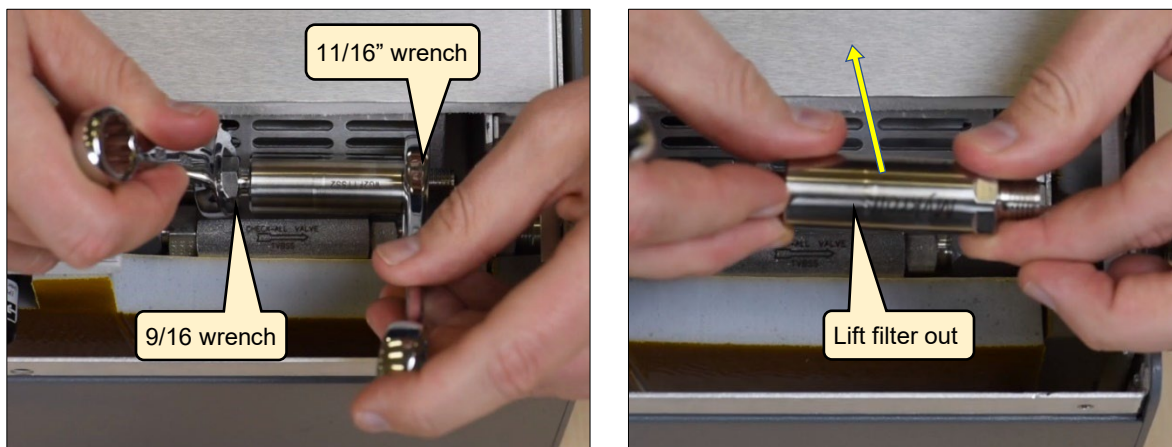

Figure 9: Filter Outlet Nut Disconnection and Filter Removal
2. Remove the filter from its packaging and attach it to the filter outlet Swagelok nut using the 9/16" and 11/16" wrenches. The arrow on the filter needs to point away from the bulkhead fitting as shown in Figure 9.